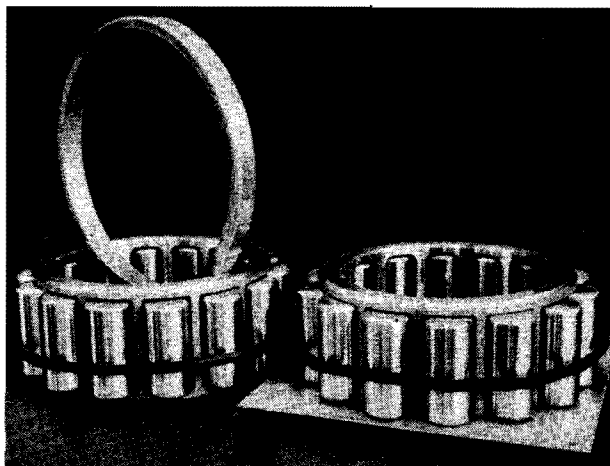

Fig. 8 - Assembling Roller Bearings
6. Remove roller assemblies, using upper liner seal (part #8025847) around the rollers while handling them, Fig. 8. When removing a roller assembly from the journal box, always place the seal over the rollers before they are completely withdrawn from the race to prevent the rollers from falling out of the cage. Tag cages to show journal box serial number and position in the box, whether front or rear. Rollers should be kept with the cage to which they belong.
When reassembling the rollers into the cage, first place an upper liner seal (part #8025847) around the circumference of the cage as shown in Fig. 8. The rollers can then be inserted into the cage windows and will be held from falling out by the seal. When all the rollers are in place in the cage, it can be lowered vertically into the outer race, sliding the seal off as the rollers enter the race. The roller assembly can best be handled by extending both hands through the cage and lifting it from the bottom.